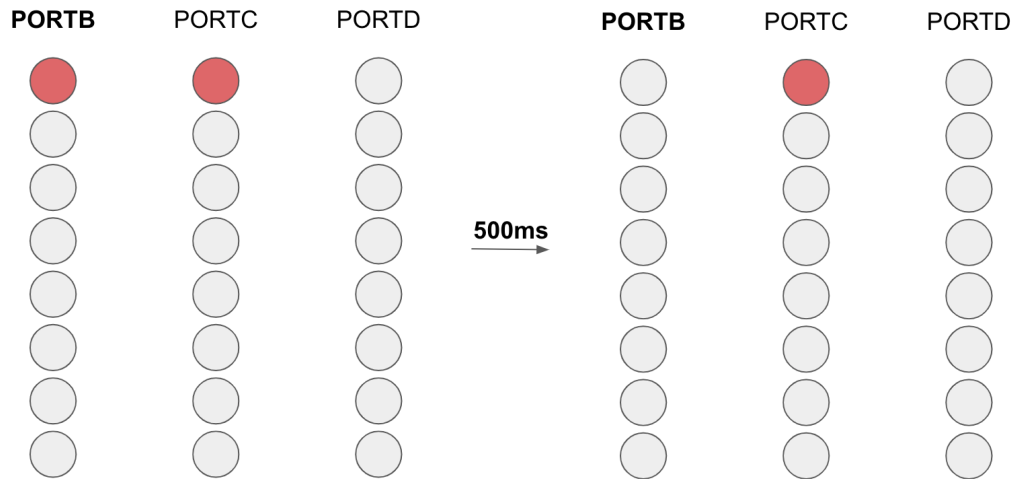

Figure 4: PORTB selected and blinking.
- RE4 is pressed and released once to select PORTB. After port selection, the program is visually identical to the default configuration, but PORTB LEDs are blinking with 500ms intervals as shown in Figure 4.